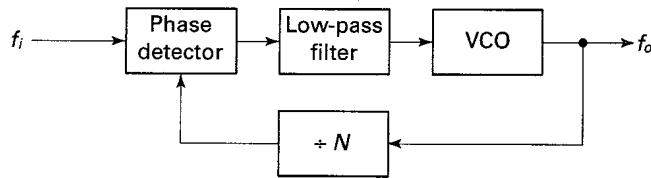

Fig. 2-36
2.49 In Fig. 2-36, what is  $f_o$  if  $f_i = 25 \text{ kHz}$  and  $N = 100$ ?    Ans.  $f_o = 2.5 \text{ MHz}$
2.50 In Fig. 2-36, what is  $f_o$  if  $f_i = 100 \text{ kHz}$  and  $N = 35$ ?    Ans.  $f_o = 3.5 \text{ MHz}$